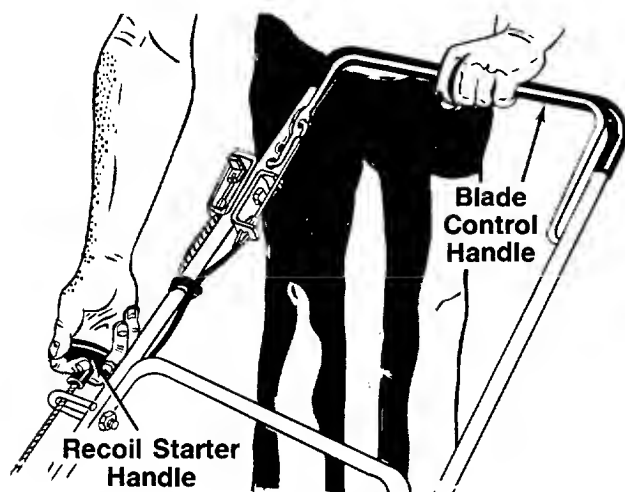

FIGURE 14.
3. Standing behind the unit, depress the blade control handle and hold it against the upper handle as shown in figure 14.